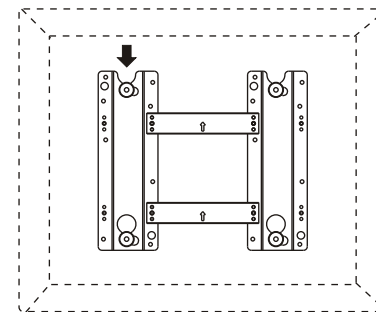

Fig. 6
6. Let the display unit slowly slide down to the end of the calabash-shaped hole. (Fig.6)